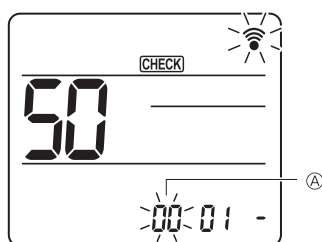

Fig. 2
Press the **↓** button to set unit number ①. (Fig. 2)